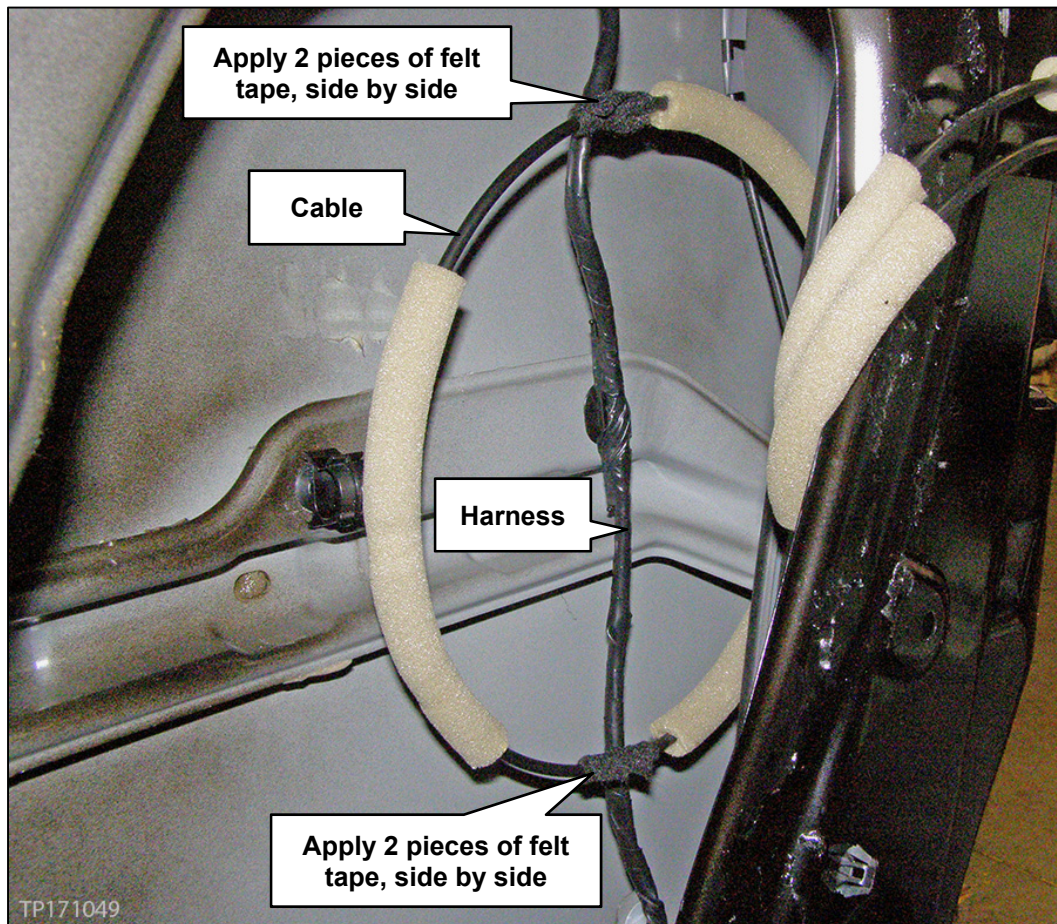

Figure 5
3. Apply 2 piece of felt tape, side by side, to the outside door handle cable in the 2 locations where it contacts the harness. See the areas indicated in Figure 5.